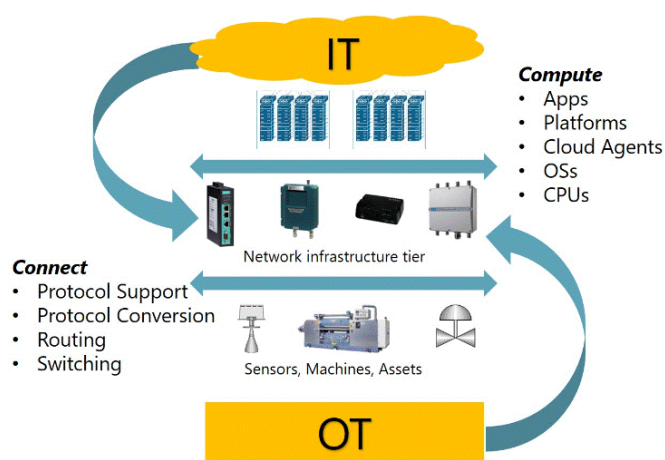

Figure 12. OT and IT convergence.²¹
Operational technology (OT): Programmable systems or devices that interact with the physical environment or manage devices that interact with the physical environment. These systems/devices detect or cause a direct change through the monitoring and/or control of devices, processes, and events. Examples include building control systems, fire control systems, and physical access control mechanisms.²⁰ Historically, OT protocols were often proprietary and developed separately from the TCP/IP Internet Protocol Suite, the framework for modern IT networks and the Internet. Recently, however, OT and IT networks are becoming more integrated, which has expanded the accessibility and interoperability of OT devices but has created new cybersecurity challenges as well. (See Figure 12).